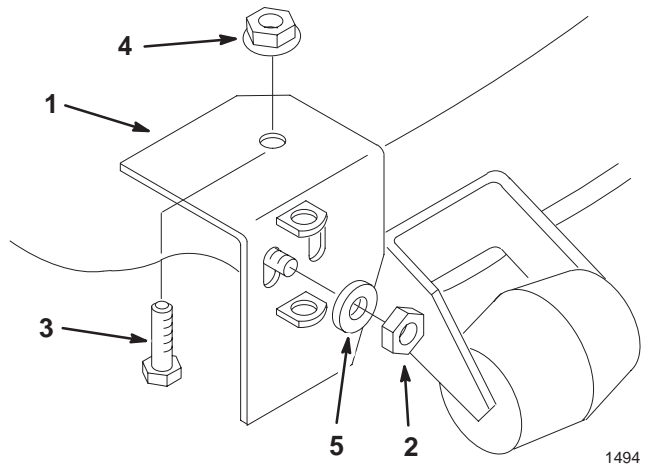

Figure 39
1. Remove the pivot support from the mower (Fig. 39).